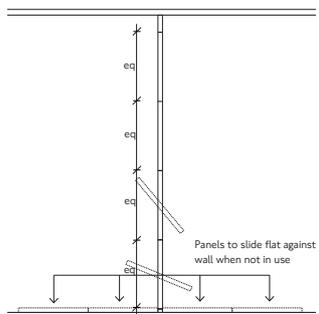

Fig 3 Sliding folding partitions enclosures
- Provide ceiling track to allow panels to fold flat against wall when not in use. See Fig 3.